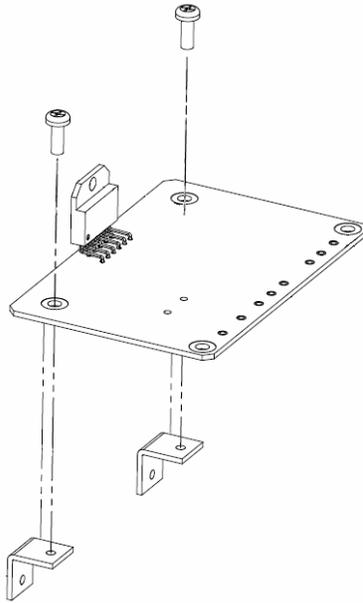

Figure 15-Showing method of attaching brackets to the PCB
1. You'll start with one small bit of mechanical assembly as shown in Figure 15. Use two #6-3/8" Phillips head screws (they have captive lock-washers) to fasten two brackets to the solder side of the amplifier PC board. Watch the bracket orientation, and don't install any more fasteners at this time!
3. Assemble the LM3886 and circuit board to the heat-sink plate as shown in Figure 15, using the 4-40 hardware, just finger-tight.